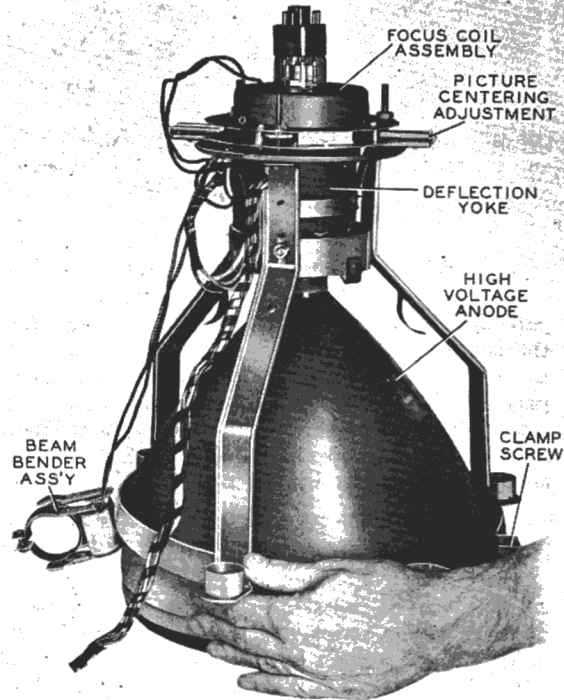

FIGURE 2. ASSEMBLING PICTURE TUBE IN MOUNTING
12. Before proceeding, refer to figures 2 and 3.
15. Line up the high-voltage anode with the clamp screw (see figure 2). Make certain that the face of the picture tube fits flush with the front rim of the mounting assembly, and tighten the clamp screw just sufficiently to hold the tube firmly.